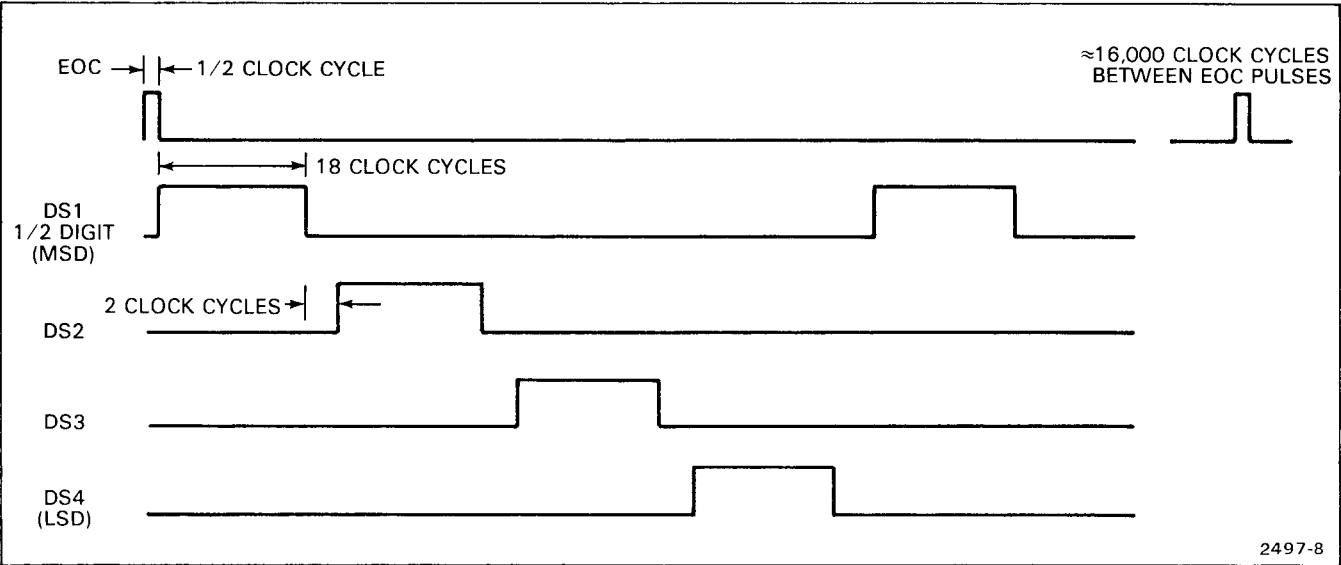

Figure 3-4. Digital select timing diagram.
significant digit DS1 turns on immediately after an EOC pulse followed by the remaining digits, sequencing from most-significant digit (MSD) to least-significant digit (LSD). An interdigit blanking time of two clock periods is included to ensure that the binary-coded decimal (BCD) data from the Q output (pins 20, 21, 22 and 23 of U4311) has settled. The multiplex cycle rate is about 200 hertz. Relative timing between the digit select (DS) output and the EOC signals is shown in Figure 3-4.